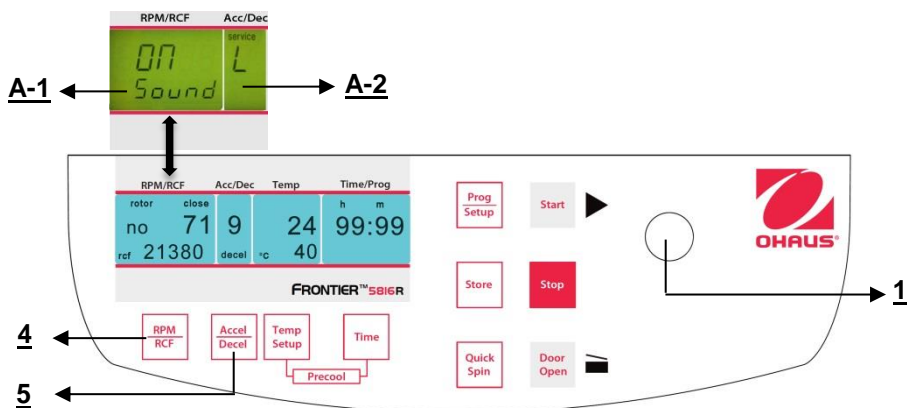

Figure 32
Proceed as described under point 4.1.1 to enter this program mode and then press the key **"Accel/Decel"** (5). In the display **"Acc/Dec"** (A-2) the word **"Service"** flashes. Now select the letter **"L"** with the adjusting knob (1). As a result, the words **"On Sound"** appears in the display **"RPM | RCF"** (4). If you press the key **"RPM | RCF"** (4) now, the word **"On"** flashes and you can switch off the sound with the adjusting knob (1) (See figure 32).